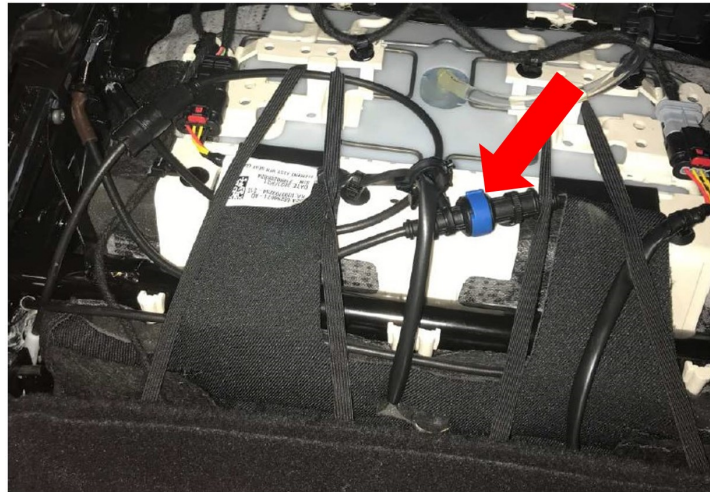

Fig. 8
17. Route the new longer compensator communication cable (**with or without heated seats**) as required underneath the cushion suspension, with heated seats (Fig. 7) and without heated seats (Fig. 8) .